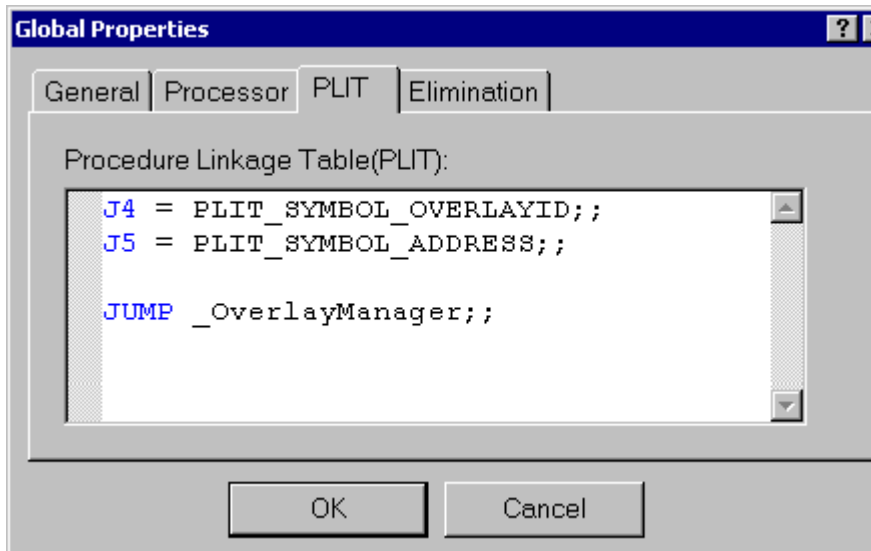

Figure 4-43. PLIT Page of the Global Properties Dialog Box
3. Click the **PLIT** tab (Figure 4-43).